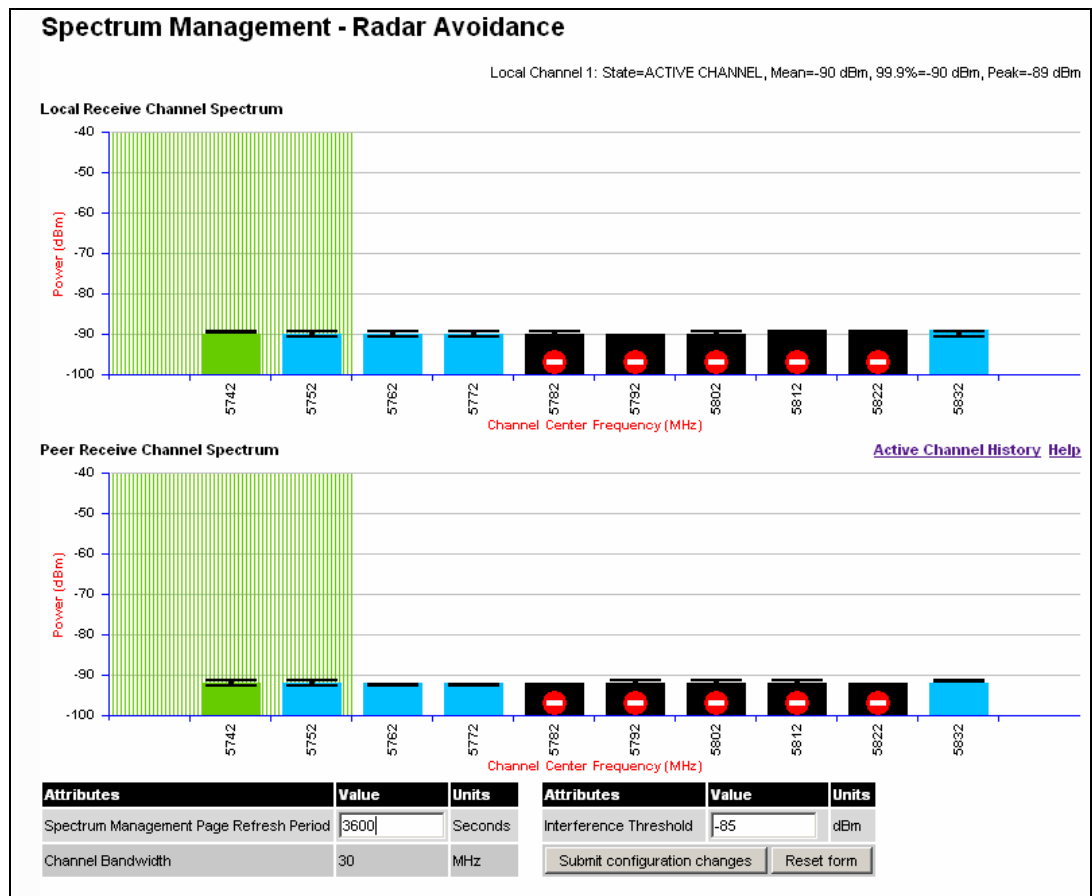
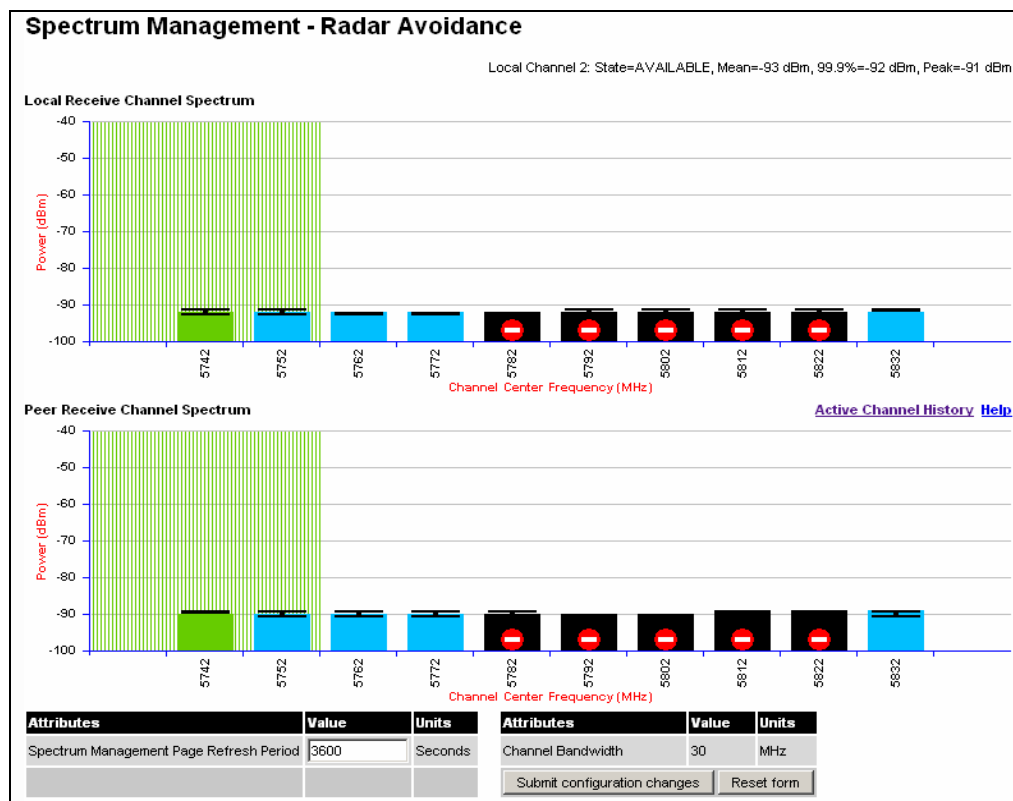

Figure 82 - Spectrum Management Master Screen With Operational Restrictions
Figure 83 - Spectrum Management Slave Screen With Operational Restrictions
- The words "Radar Avoidance" are appended to the "Spectrum Management" title at the top of the screen. See Figure 82 and Figure 83.
- The only controls available to the master are the Interference Threshold attribute. This has no effect on the operation of the wireless link and will only affect the generation of the channel spectrum graphics. See Figure 82.
- All channels marked with a 'no entry' symbol with their associated statistics colored black are the prohibited channels. See Figure 82 and Figure 83. These channels are never used to host the wireless link, but CAC measurements are still taken so that adjacent channel biases can be calculated correctly and so the user can see if other equipment is in use.